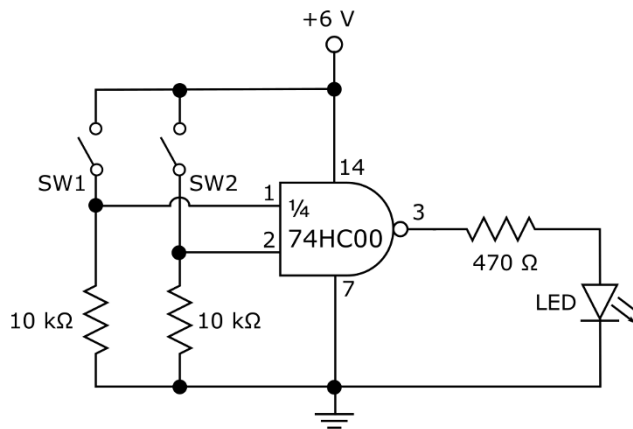

Figure 11-8: Use an LED to show the output of a NAND logic gate.
The circuit in Figure 11-8 uses an LED to indicate the high (1) or low (0) state of the output of a two-input NAND gate.
Set up the circuit, being careful to avoid static. You can use the remaining three NAND gates on the 74HC00 IC that you used to build the circuit in Figure 11-9. Figure 11-11 shows the circuits in Figure 11-8 and 11-10 set up together using a single 74HC00. Try not to get your wires crossed!